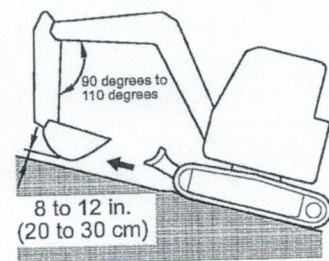

Fig. 3-46
2. When climbing a slope, drive the machine with the implement positioned as shown in the figure on Fig. 3-46.